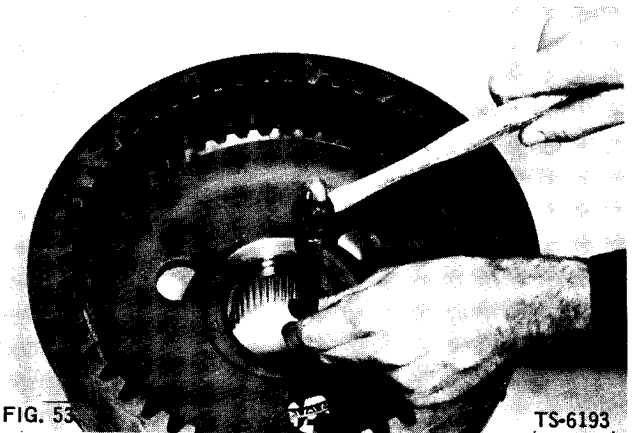

FIG. 53
1. Drive bearing cone from hub (Fig. 53).